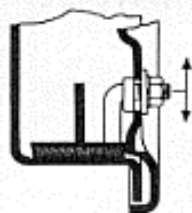

Fig. N29C—If a shoe stop is used it will be at lower end of backing plate as shown above
- 1a. If brakes are equipped with shoe stop as in Fig. N29C, Page 58, loosen the locknut and move each stop upwards in its elongated hole and temporarily tighten the locknut. This will eliminate interference during shoe adjustment.
9. With brakes released move each shoe stop down until it just contacts shoe as shown in Fig. N29C, then **tighten** stop locknut. Do this at all four wheels.